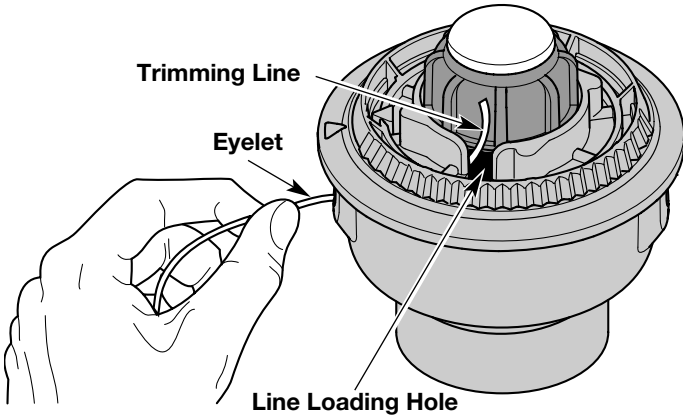

Fig. 14
3. Pull old line out of the line loading and line locking holes (Figs. 14 and 15).
4. Insert a piece of trimming line into one of the two eyelets in the outer spool. Push it up through the line loading hole in the inner reel (Fig. 14). Do not bend the line when inserting it into the eyelet.